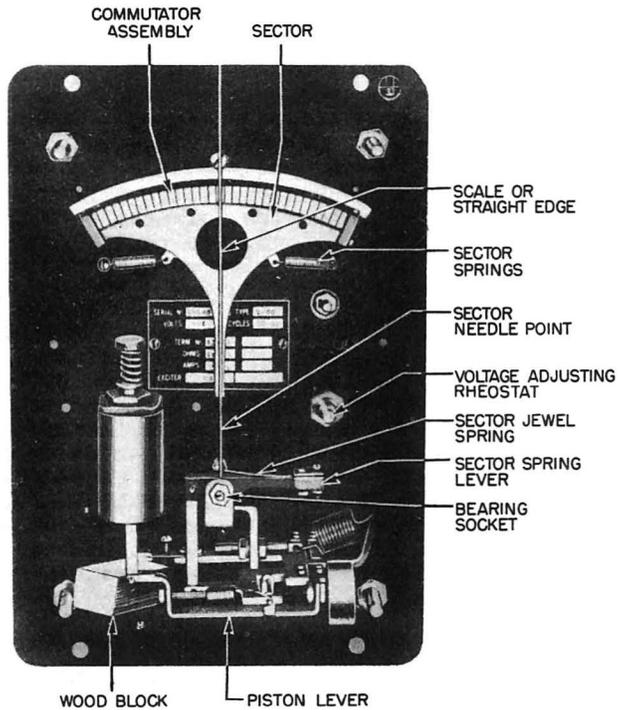

Fig. 19 - Checking Position of Sector in Commutator of Allis-Chalmers Voltage Regulator - Mechanically
(9) To check the pressure of the sector against the commutator, hold the sector spring lever in a horizontal position by inserting a wood block beneath the piston lever and suspend a weight of 110 grams from the sector to give the sector a downward pull. The sector should just move away from the commutator. In case it does not do so, flex the sector jewel spring to give more or less tension as required until the condition is satisfactory.
(10) To check that the sector is parallel with the front face of the panel, measure the distance the apex of the groove in the commutator is from the panel, and the distance the sector needle point is from the panel, using a steel scale. These two distances should be exactly alike. If not, shift the jewel end of the sector jewel spring in or out on the lever to make these spaces equal.
(11) To insure that the sector will travel in the groove of the commutator without bind at any point, each sector spring must be parallel with the front face of the panel. With a steel scale, measure the distance each spring is away from the face of the panel and if not found to be parallel therewith, bend the lug at the sector end of the spring to which the spring is attached until each spring is parallel with the front face of the panel.
(12) To check for central position of the sector in the commutator, hold the jewel spring lever in a horizontal position by means of a block of wood (see Fig. 19) beneath the piston lever, and hold a steel scale vertically through the center segment of the commutator and the center of the bearing socket. If the sector is properly positioned, this straight edge will pass through the exact center of the sector and be in line with the needle point at the sector spring jewel. If not, it is necessary to loosen the screws holding the jewel spring, and shift it to the right or to the left on the lever until the needle point at the sector spring jewel is in line with the straight edge. When so positioned the screws holding the jewel spring should be tightened to retain the adjustment.
(13) Travel of the sector in the commutator should be only far enough for the sector to contact the two